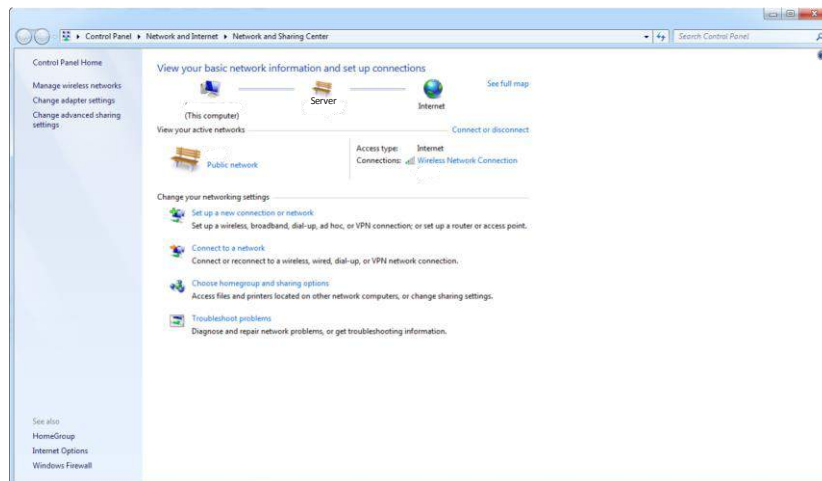

Fig. 2.3.1. Troubleshoot problems
2. Click Troubleshoot problems. Refer to Fig. 2.3.1